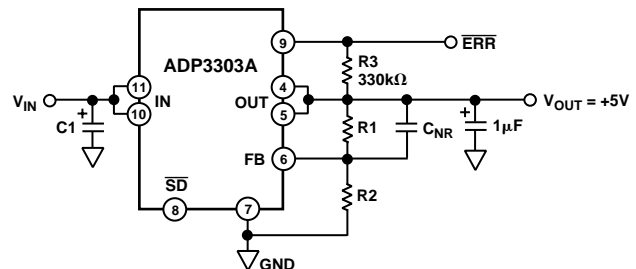

Figure 21. Noise Reduction Circuit
Noise Reduction Capacitor (CNR): to reduce the ADP3303A’s low output noise by 6 dB–10 dB, a noise gain limiting capacitor can be connected between the feedback (FB) pin (Pin 6) and the OUT pins as shown in Figure 21. Low leakage capacitors in the 100 pF–500 pF range provide the best performance. Larger capacitors will slow down the output transient response. CNR is not needed in low noise applications where fast load transients are not expected.
The proprietary thermal coastline TSSOP-14 package of the ADP3303A, in conjunction with the recommended PCB layout shown in Figure 21, yields a thermal resistance of 96°C/W. As a result, the die temperature rise for the example circuit is: